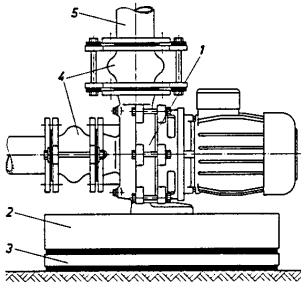

Fig. 4.6a Low-Noise Installation
A reduction in noise can be achieved by isolating the pedestal (2) from the ground by means of an appropriate insulation board (3) and by using suitable bellow expansion joints (4) between the piping (5) and the pump (1) (fig. 4.6a). The pedestal (2) must not be secured to the ground or to the walls.